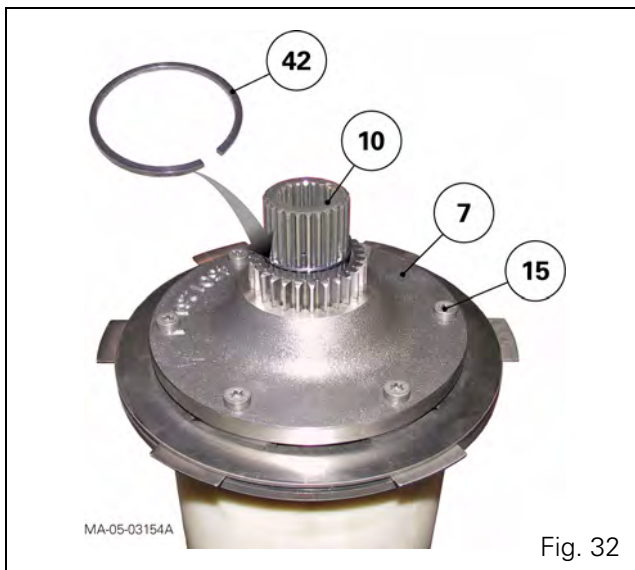
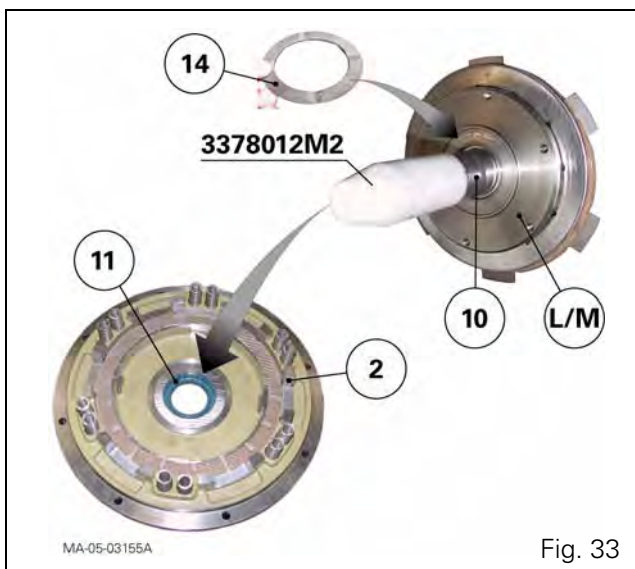

Fig. 32
Fig. 33
56. Refit the clutch cover (7). Fit the screws (15) smeared with Loctite 242. Tighten to a torque of 33 Nm (Fig. 32).
57. Fit the snap ring (42) on the shaft (10) (Fig. 32). Fit the friction washer (14) smeared with grease on the clutch housing (3) (Fig. 33).
58. Fit service tool 3378012M2 (see § I) on the input shaft (10) so as to protect the lip seal (11). Fit clutch M /brake L on the cover (2), paying attention to the lip seal (11) (Fig. 33).